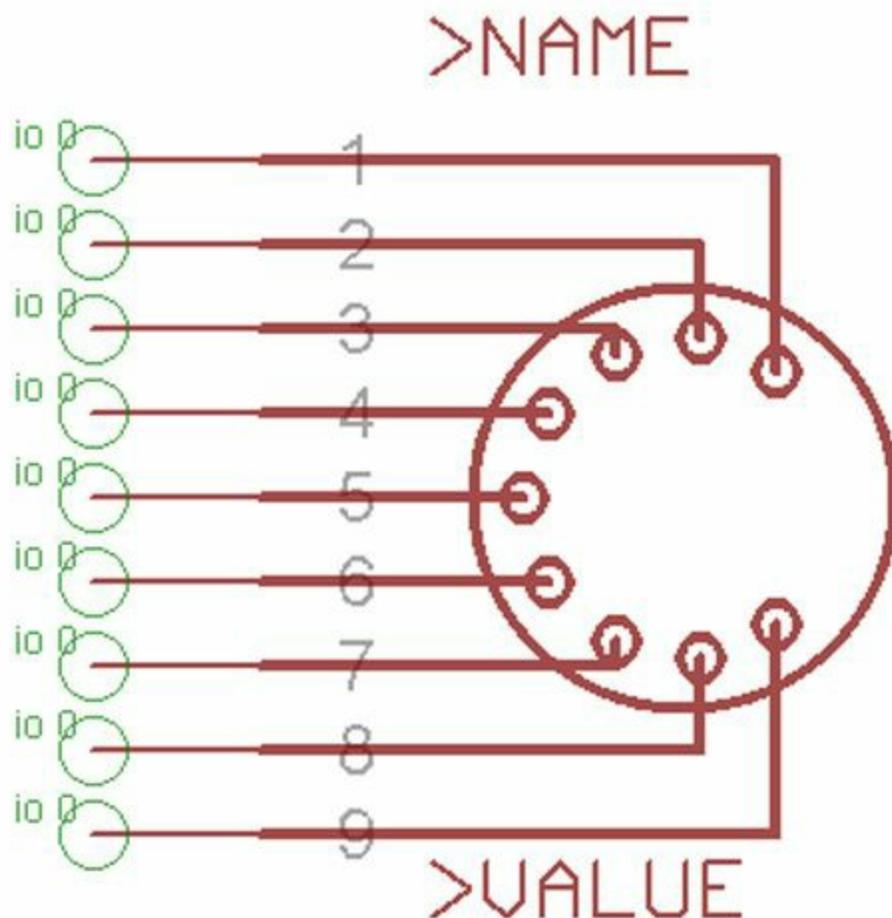

Figure 8.8: The VACUUM Symbol
The component's symbol will be circular to match the actual device. It will contain nine smaller circles representing the leads, and each lead will be connected to a pin. Figure 8.8 shows what the symbol looks like.
5. Activate the Pin tool and add nine pins to the left of the drawing in the manner shown in Figure 8.8. Make sure the pins are positioned symmetrically around the x-axis.